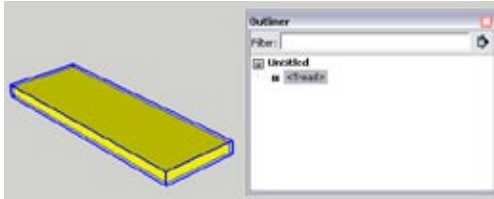

Figure 7-93
1. Create a simple box to represent one of the stair treads and make the box into a component named Tread. The tread component is listed in the Outliner (Figure 7-93).